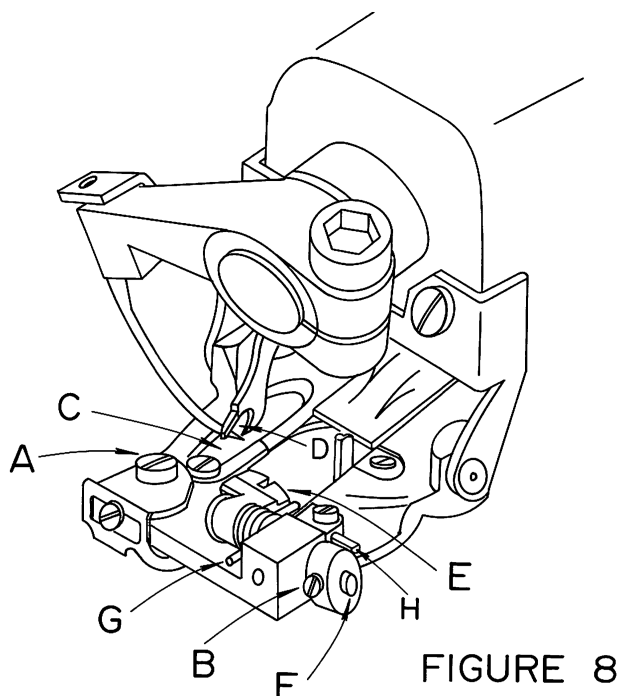

FIGURE 8
6. Once the looper is timed with respect to the needle as outlined in paragraphs 2 thru 5 above, slowly turn the handwheel in a direction away from the operator, until the looper approaches the edge of the looper slot. **(Point "C" in Figure 8)** in the presserfoot. At this point make sure the small prong of the looper clears this edge. If it does not clear, adjust the eccentric block as outlined in paragraph S until the interference is eliminated.
7. Continue turning the handwheel away from the operator until the point of the needle starts to enter the area in between the looper prongs. **(Refer to Point "D" in Figure 8)**. If the needle strikes the crotch of the looper, the looper has generally been set too far forward. Check to see if the looper has been inserted into the clamp as far as it will go. It should be inserted until the shoulder on the looper is stopped on the clamp. If this check is satisfactory, recheck the distance from the center of the looper rod fork pin to the rear face of the looper rod ball. Refer to paragraph 4 and reset if necessary. If neither of the above two measures corrects the problem, it is possible that the needle lever may be set too low and required adjustment.
1. The shoe, (**item "E" in Figure 8**), also known as a cloth retainer, normally will not required replacement. However, in the event of wear due to the particular fabrics being used, or if the shoe or spring suffers any damage, they may be readily replaced.
2. The first step is to remove the complete front guide assembly by unscrewing the front guide holder attaching screw (**item "A" in Figure 8**). Next loosen the shoe pin and the shoe eccentric barrel lock screws, (**item "B" Figure 8**), and slide out the shoe pin (**item "F"**), shoe and retaining spring (**item "G"**). Before removing these components it is advisable to note the manner in which the spring is assembled so that it may be reinstalled in the same way.
3. When replacing an old shoe, make sure that the replacement shoe properly fits the pin without binding and without excessive looseness. In the event that the pin has worn and does not fit the new shoe properly, it should be replaced at the same time as the shoe-pin. After replacing the shoe, shoe pin spring into shoe eccentric barrel, retighten screws (**item "B" Figure 8**), and check to insure that the center of the shoe is lined up with the center of the rib. Also insure that the shoe clears both sides of the opening of the presser foot.
4. In and out position of shoe should now be checked. For light fabrics, shoe should be as close to needle as possible. For heavy fabrics with seam, shoe should be set back as far as possible from needle. To move shoe in and out turn eccentric barrel (**item "I" Figure 8**). After the correct location is established, be sure to tighten screws, (**item "B" Figure 8**).
- 4A. An additional shoe adjustment is also possible. The height of the shoe can now be controlled, (**item "H" in Figure 8**). This is a tapered pin and position can be adjusted so that the shoe, whenever required, can be controlled as far as elevation is concerned. By moving the tapered pin in or out the shoe can be kept from pressing down on some fabrics which require little, if any shoe pressure. By having this control, it sometimes will aid in penetration of difficult fabrics. The normal position of the shoe, when set properly on most fabrics, is that the shoe will show movement on the penetration cycle on one ply of fabric.